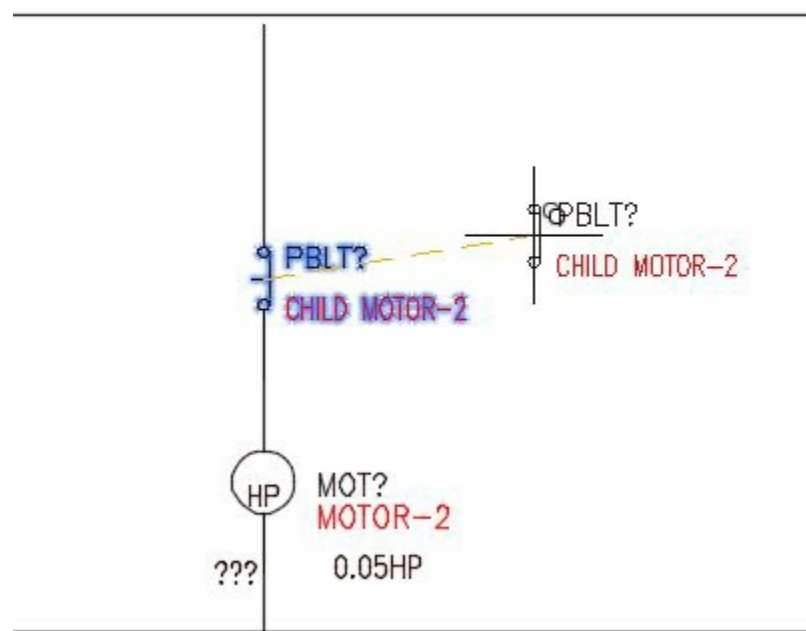

Figure-31. Component attached to the cursor
- Click on the component. The component will get attached to the cursor; refer to Figure-31.